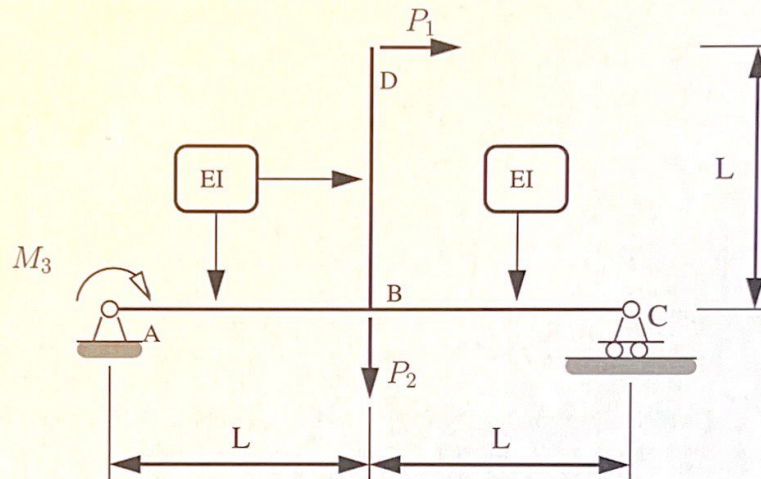

Figure 1: Front elevation view of a T-shaped beam.
**COMPULSORY: Method of Virtual Displacements, Method of Virtual Forces, Flexibility Matrix.** The T-shaped beam structure shown in Figure 1 has flexural stiffness  $EI$  throughout.